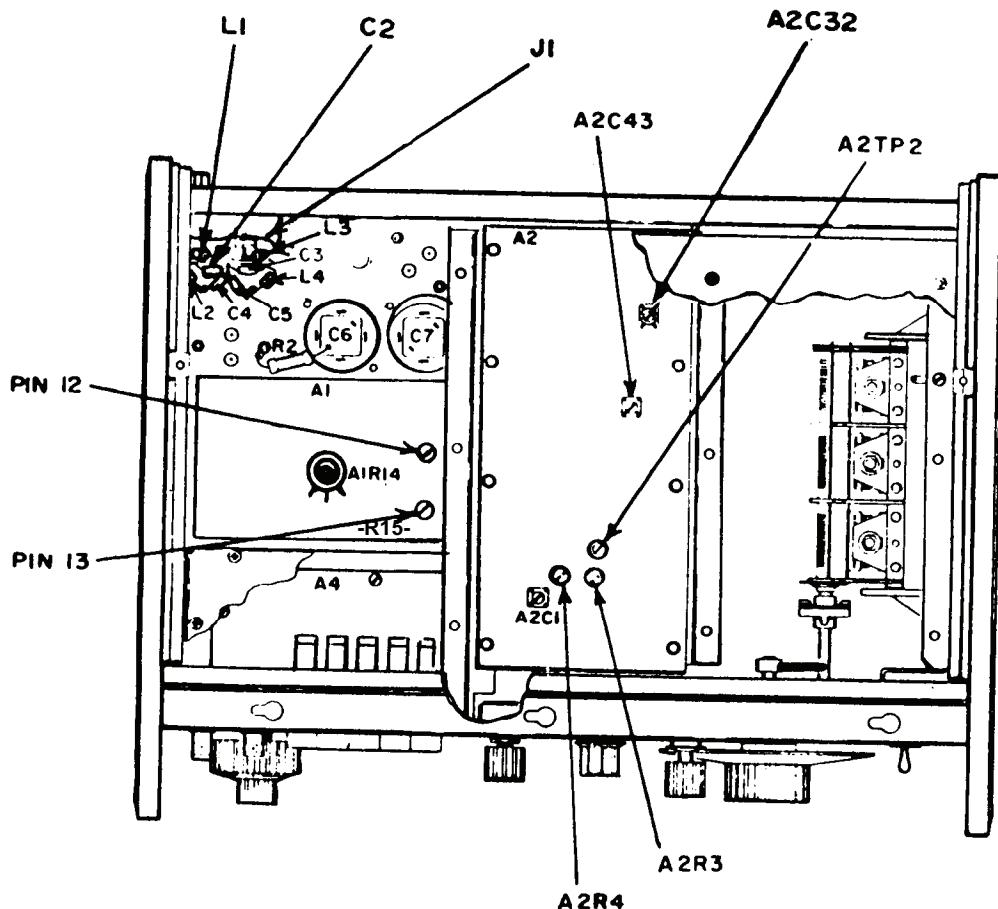
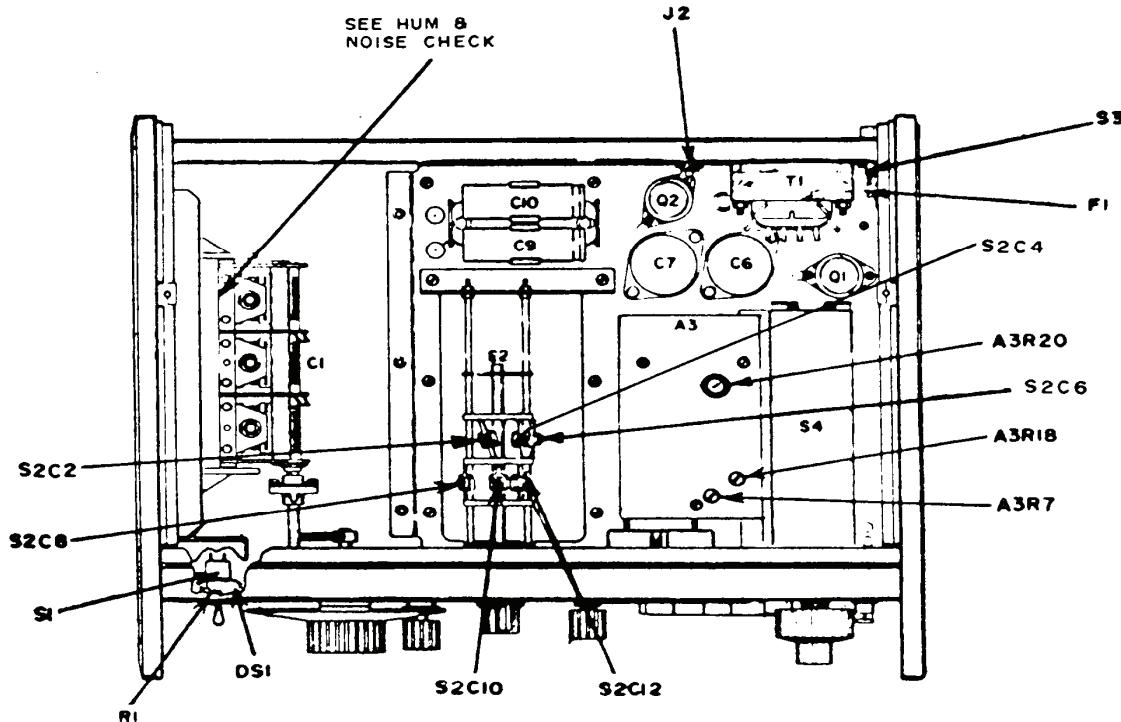

Figure 1. Adjustment locations - bottom view.
Figure 2. Adjustment locations - top view.
- (1) Connect multimeter between A2TP2 (fig. 1) and chassis ground termination.
- (2) Connect audio analyzer or spectrum analyzer to TI UNBAL output, using 50Ω feed-through termination.
- (3) Position controls as listed in (a) through (d) below:
- (4) Adjust A2R3 (fig. 1) for a -350 mV indication on multimeter (R).
- (5) Adjust A2R4 (fig. 1) for minimum distortion on audio analyzer, or at least -46 dB on the spectrum analyzer (R).
- (6) Rotate FREQUENCY dial fully ccw.
(7) Alternately adjust S2C2 (fig. 2) and S2C8 (fig. 2) until frequency counter indicates 10.2 kHz and multimeter indicates between -340 mV and -360 mV (R).
(8) Rotate **FREQUENCY** dial fully cw. Frequency counter will indicate between 965 Hz and 970 Hz.
(9) Set **FREQUENCY** dial for a 1 kHz indication on frequency counter. If dial does not indicate 1, perform (a) through (c) as listed below:
- Tighten retaining screws and install **FREQUENCY** dial knob (R).
(10) Set **FREQUENCY** dial to 10.
(11) Readjust S2C2 (fig. 2) and S2C8 (fig. 2) alternately until frequency counter indicates 10 kHz and multimeter indicates -350 mV (R).
(12) Set **FREQUENCY RANGE** switch to **X1M** and **FREQUENCY** dial to 10.
(13) Adjust S2C6 (fig. 2) and S2C12 (fig. 2) for a frequency counter reading between 10.1 MHz and 10.2 MHz, and A2TP2 (fig. 1) for multimeter reading between -0.38 V and -0.40 V (R).
(14) Set **FREQUENCY** dial to **5**. If frequency counter does not indicate between 4.935 MHz and 5.065 MHz, go to (15) below. If (15) below is not performed, proceed to (16) below.
(15) Set **FREQUENCY DIAL** to **10**. If frequency counter indication was high, adjust A2Cl (fig. 1). If frequency counter reading was low, adjust A2Cl (fig. 1) to lower frequency counter reading and repeat (12) through (14) above (R).
(16) Set **FREQUENCY RANGE** switch to **X100K** and **FREQUENCY** dial to **10**. Adjust S2C4 (fig. 2) and S2C10 (fig. 2) for a frequency counter reading between 987 kHz and 1013 kHz and multimeter reading at A2TP2 (fig. 1) between -0.3 V and -0.4 V (R).
(17) Repeat (1) through (16) above until frequencies are within specified limits.
- (1) Rotate A3R18 (fig. 2) fully cw.
- (2) Adjust A3R7 (fig. 2) until **AMPLITUDE** control has sufficient range to exceed maximum meter deflection at both ends of meter scale.
- (3) Adjust **AMPLITUDE** control for a -1 dBm indication on TI meter. Record multimeter indication as R2.
- (4) Multiply R2 by 1.259 and record as R4.
- (5) Adjust **AMPLITUDE** control for value of R4 on multimeter.
- (6) Adjust A3R18 (fig. 2) for a +1.0 dBm indication on TI meter
- (7) Adjust **AMPLITUDE** control for a 0.7071 V rms indication on multimeter.
- (8) Adjust A3R7 (fig. 2) for a 0 dBm indication on TI meter (R).
- (9) Rotate **AMPLITUDE** control fully cw.
- (10) Adjust A3R20 (fig. 2) for a 0.80 V indication on multimeter (R).
- (11) Adjust **AMPLITUDE** control for a 0 dBm indication on TI meter.
- (12) Adjust A2C43 (fig. 1) for R2 value recorded in **9 a** (9) above (R).